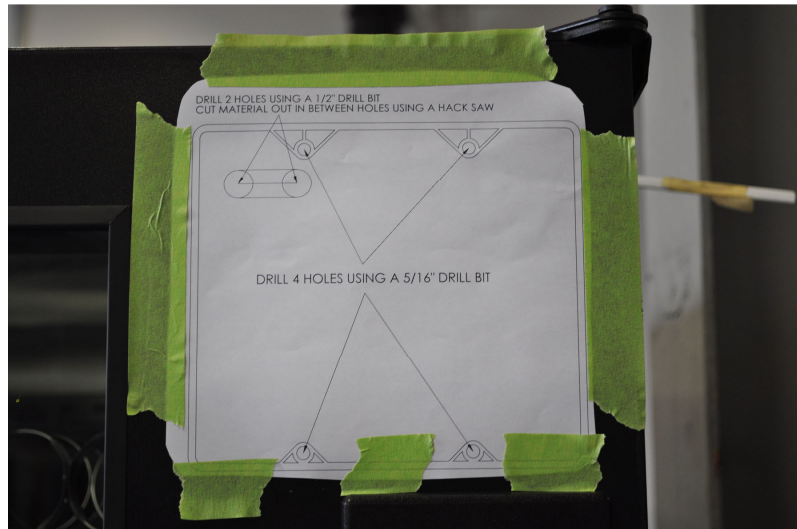

Figure 1
- 1) Use supplied drill template to locate an area for installation. Please note: it is important that you check to ensure that the placement selected will provide proper clearance for the studs, so they do not hit any parts inside the door. When satisfied with the placement, drill the four mounting holes and also the 2 holes for the ribbon cable slot (Figure 1).